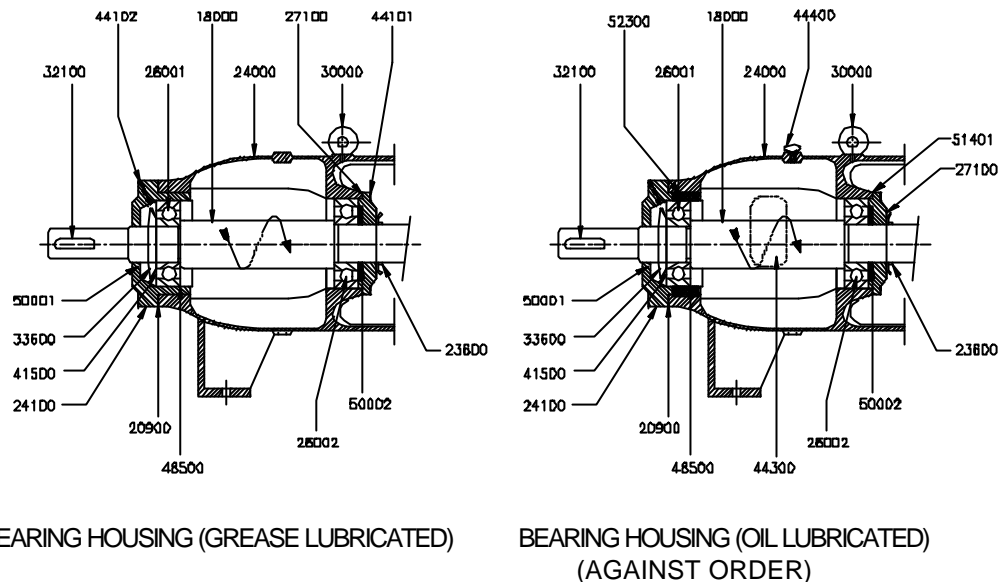

Fig.4
- a) Use Arbor Press while fitting the bearings. However, it is recommended that bearings should be heated in oil bath at temperature 70° to 80 °C and then fitted. (Refer Fig.4)